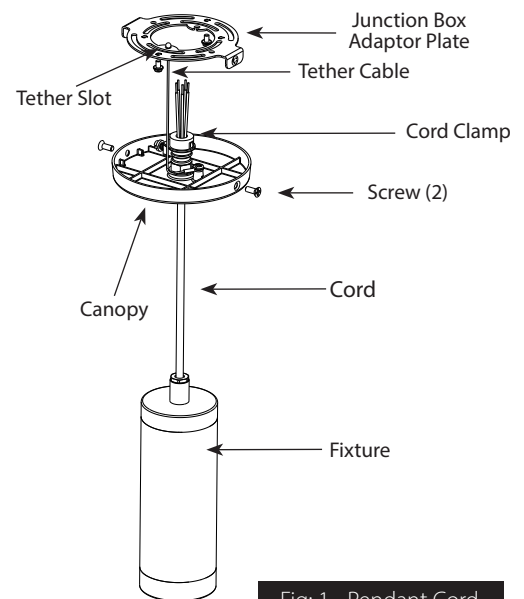

Fig: 1 - Pendant Cord
1. Remove Screws (2) from the side of the Canopy as shown in Fig. 1 & 2.
4. Press Canopy to Junction Box Adaptor Plate and replace Screws (2) to secure the Fixture to the Junction Box Adaptor Plate.